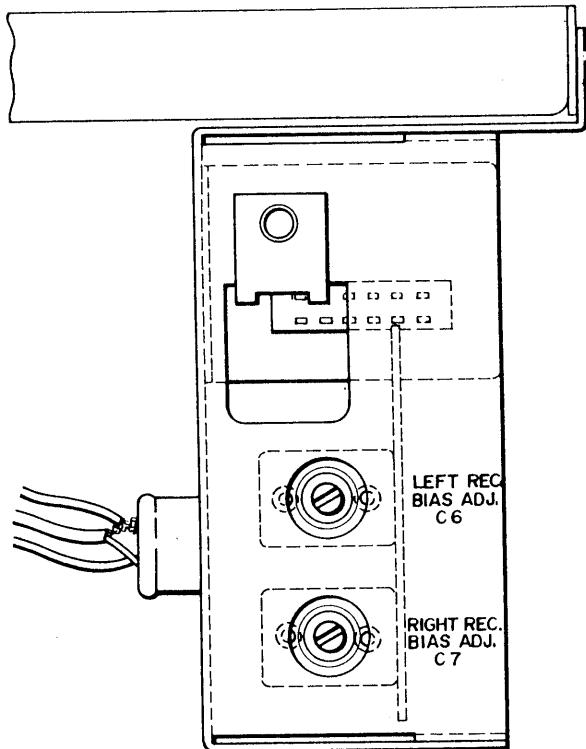

Fig. 15
4. RECORDING BIAS VOLTAGE ADJUST- MENT (FREQUENCY RESPONSE ADJUSTMENT) (See Figs. 15, 16)